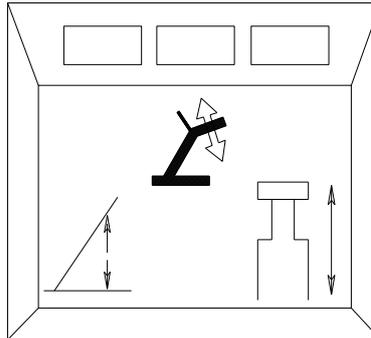

Figure 4-67 Switch "Pre-selection of telescope / derricking"
- a) Turn the switch "Pre-selection of telescope / derricking" to the right position. Refer to Figure 4-67.